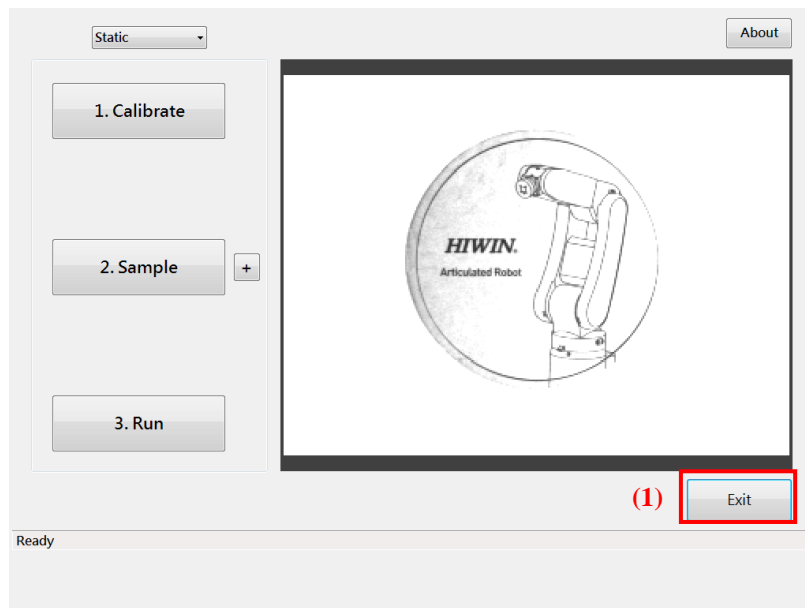

Figure 9-5 Press Exit button
- (1). As shown in Figure 9-5, press the Exit button.